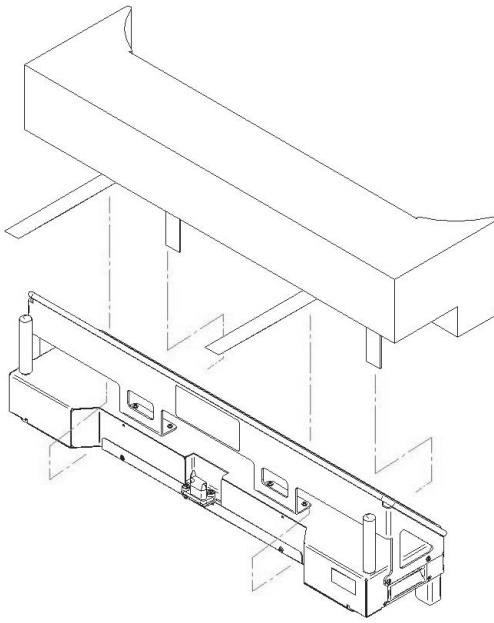

Figure 109 – Strapping the mattress to the bed extender option
1. Strap the appropriate mattress extender cushion onto the bed extender option (Figure 109).